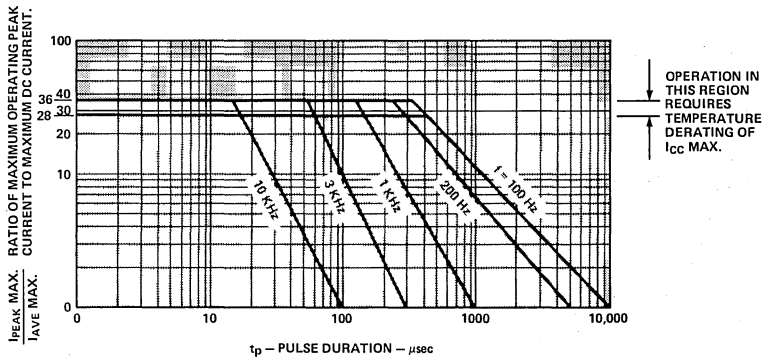

Figure 1. Maximum Tolerable Peak Current vs. Pulse Duration HDSP-8820
- See Figures 1 and 2 to establish pulsed operating conditions.